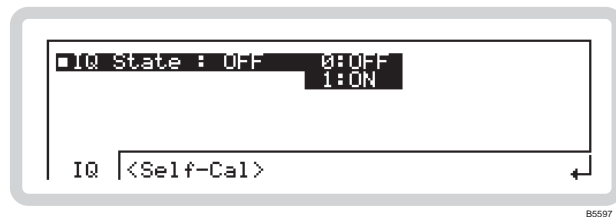
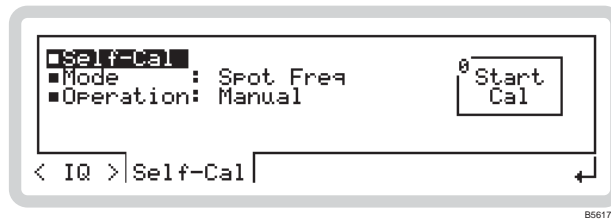

Fig. 3-27 Internal IQ
Fig. 3-28 Self-calibration
- 2 Press **SIG GEN** to show the main screen, and touch the **IQ** soft box to select the function. Touch **IQ** and press **...** to view the internal IQ modulation menu (Fig. 3-27).
From the internal IQ menu of Fig. 3-27, touch <Self-Cal> or press <TAB> to display the self-calibration screen (Fig. 3-28).